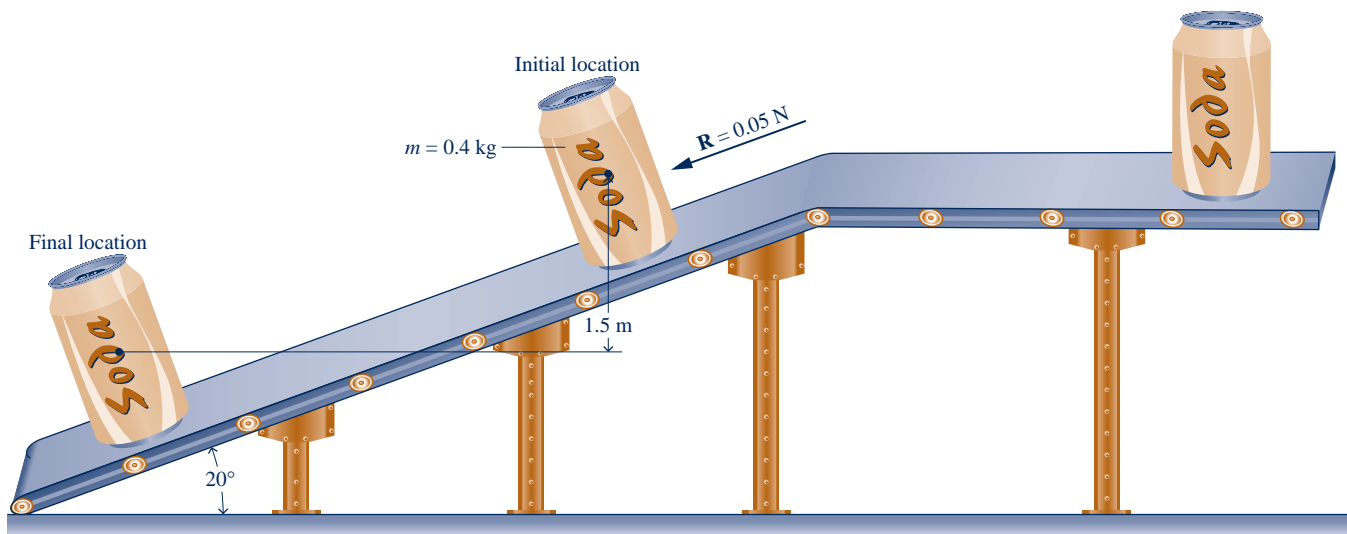

Fig. P2.15
2.15 During the packaging process, a can of soda of mass 0.4 kg moves down a surface inclined 20° relative to the horizontal, as shown in Fig. P2.15. The can is acted upon by a constant force \mathbf{R} parallel to the incline and by the force of gravity. The magnitude of the constant force \mathbf{R} is 0.05 N. Ignoring friction between the can and the inclined surface, determine the can's change in kinetic energy, in J, and whether it is *increasing* or *decreasing*. If friction between the can and the inclined surface were significant, what effect would that have on the value of the change in kinetic energy? Let $g = 9.8 \text{ m/s}^2$.